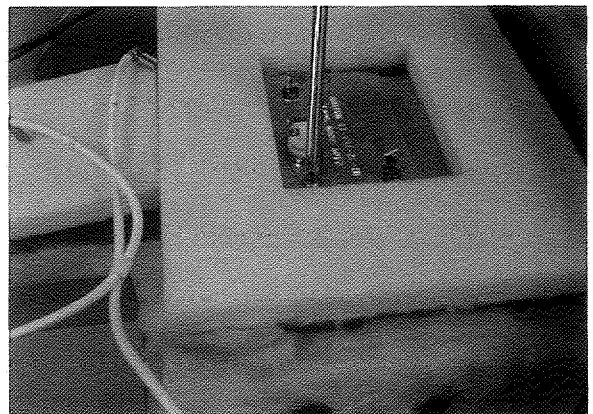

Figure 27
4. Remove the two screws holding the high limit to the cabinet, and remove high limit. (See Figure 27)